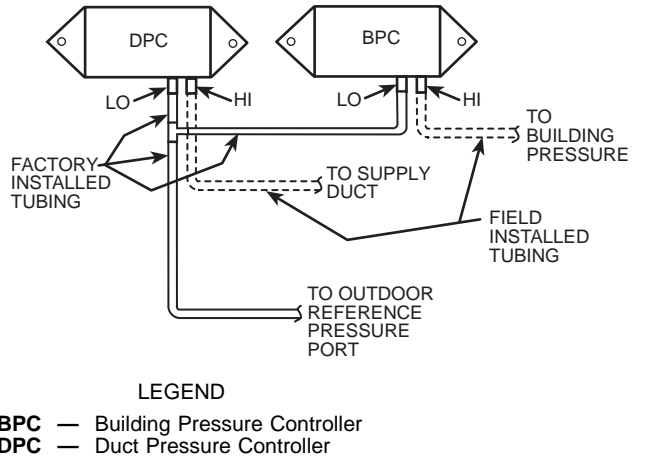

Fig. 33 — Air Pressure Tubing Locations
The tubing must be run from the appropriate location in the building to the auxiliary control box in the unit. Figures 31 and 32 show the location and layout of the auxiliary control box in the 48/50MP unit. Figure 33 shows the connection locations for the tubing on the duct pressure (DP) controller for the VFD on the supply fan and on the building pressure (BP) controller for the VFD on the modulating power exhaust fan.